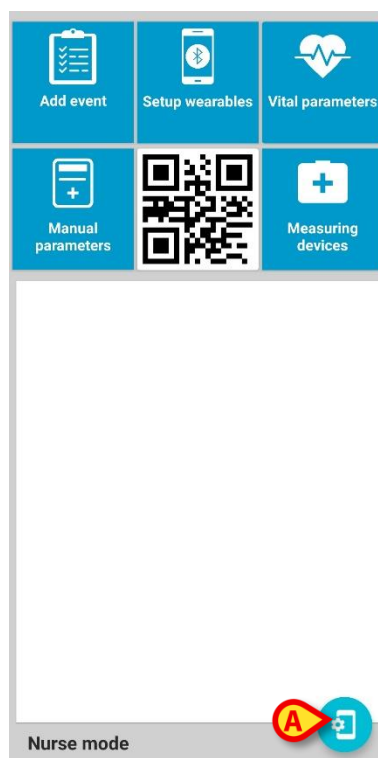
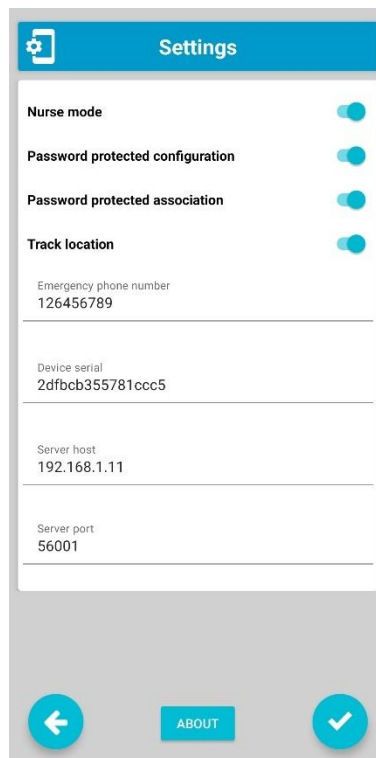

Fig 24
Fig 25
- Tap the “Settings” button (Fig 24 **A**) to open the settings page (Fig 25) and configure the application.